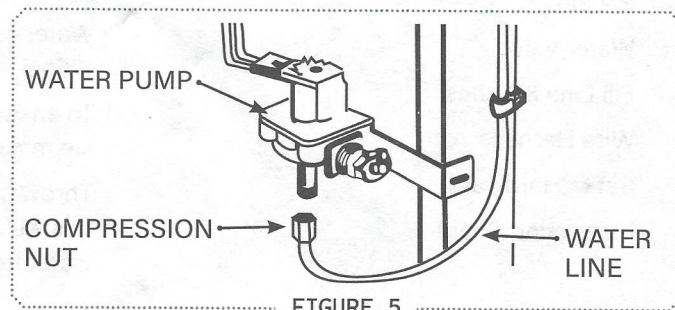

FIGURE 5
13. Using factory predrilled mounting holes where possible. Stay away from the coils and compressor when drilling. Attach water valve to the frame. See Figure 5